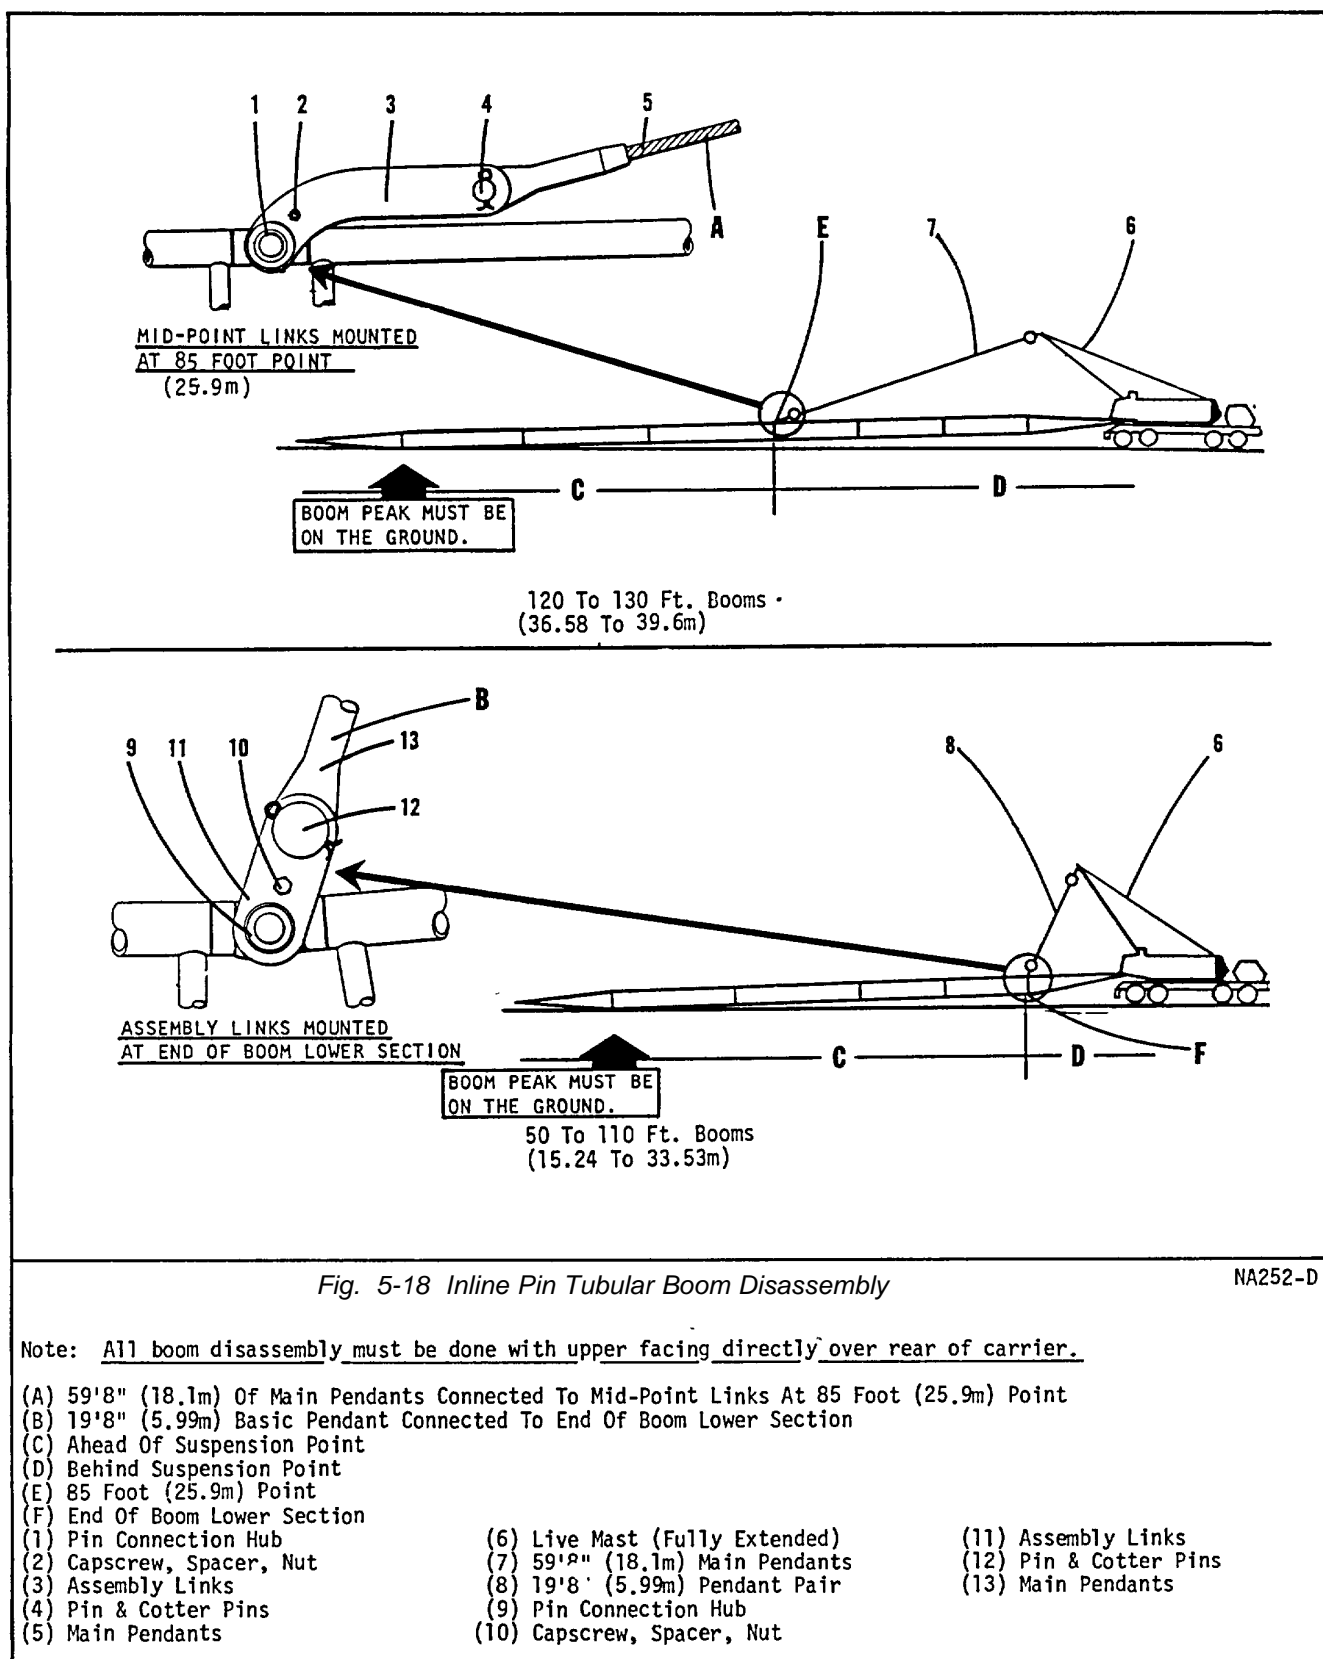

Fig. 5-18 Inline Pin Tubular Boom Disassembly
- Connect the other end of these pendants to the assembly links. (A in Fig. 5-18).
- Boom down until the boom sections ahead of point (E) are flat on the ground.
- Disassemble the boom sections ahead of point (E).
- To remove boom sections ahead of point (E) follow the procedure below.
- Connect the other ends of the 19'8" (5.99m) basic pendant pair to the boom assembly links (B) at the end of boom